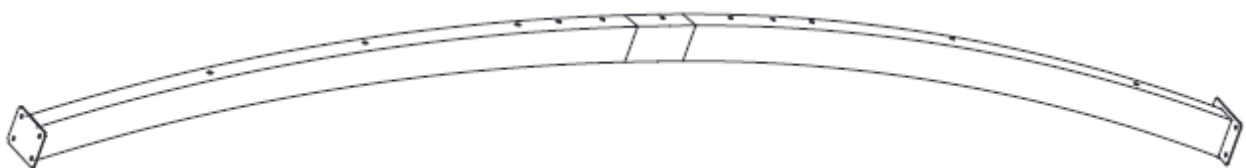

Figure 4-4
Step 4D: Repeat steps 4A to 4C for remaining Curved Top Beams (B). **Tighten Bolts.** See Figure 4-4.